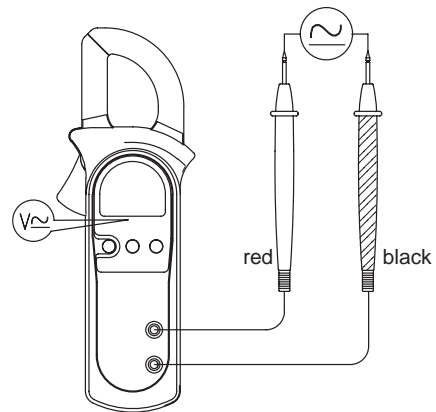

figure 3
A. DC and AC Voltage Measurement (See figure 3)